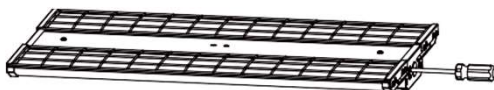

Figure 5
Step 1. Attach wire guard on the fixture with supplied screws (Figure 5)